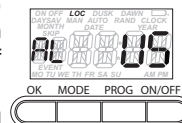

Fig. 4
(For example, in Arizona or Hawaii) turn knob to display flashing MAN then press OK. LOC will show on top of display. (Fig. 4)
1. The timer is factory-set to the US Daylight Saving rules effective from the year 2007 forward. The display will show ON DAY SAV, flashing 03, and WK 02, meaning timer will adjust forward on 2nd Sunday in March. Proceed to step 9 if you need to change the factory settings or press OK repeatedly to accept the factory settings until LOC appears on top of display and proceed to step 8. (Fig. 4)